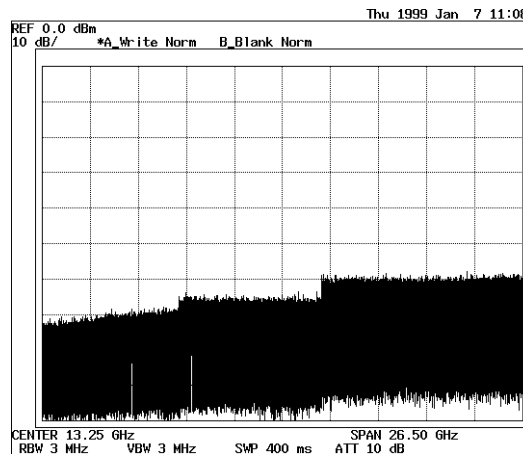

Figure 1-8 Start-up Screen
The R3267 Series performs the Initial test (processing time: approximately 10 seconds). The start-up screen is displayed as shown in Figure 1-8.
1. *There is a possibility that the screen display is different from the one shown in Figure 1-8, depending on previously saved conditions.*
The start-up screen is displayed as shown in Figure 1-8.